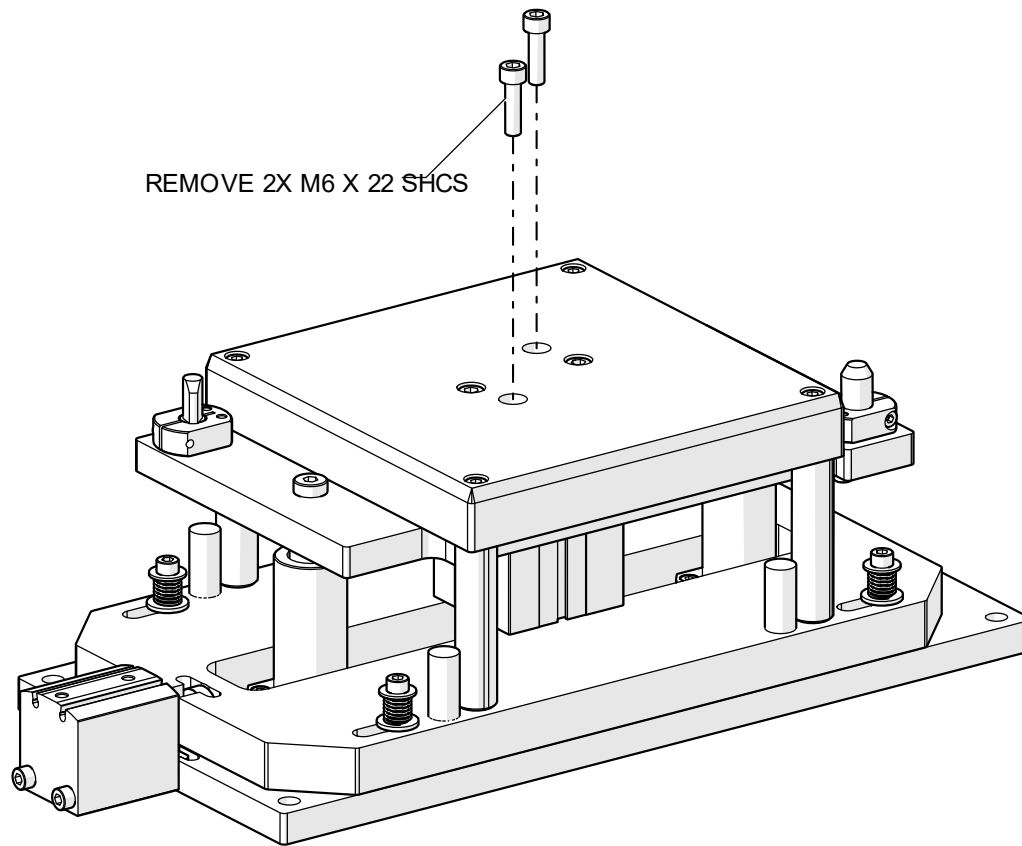

Figure 6: Removing Top M6 X 22 SHCS
Step 1: Remove Top M6 X 22 SHCS as shown in Figure 6